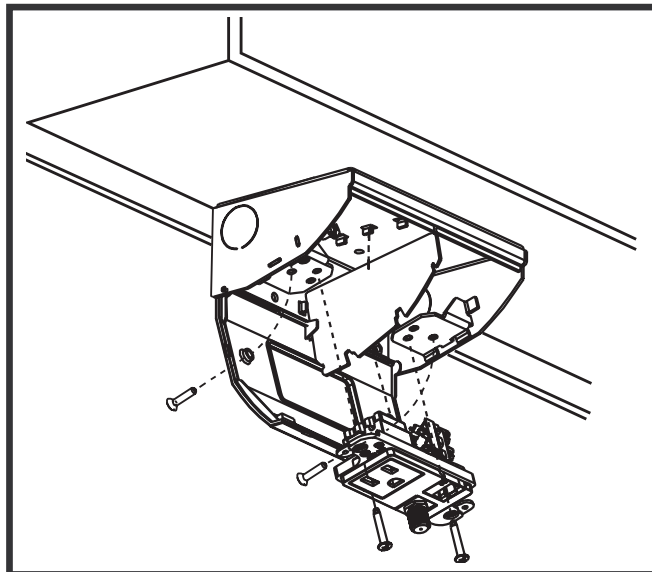

FIGURE 3b
5. GFCI fit series RU200, JLOAD™ compatible (Fig. 3b).